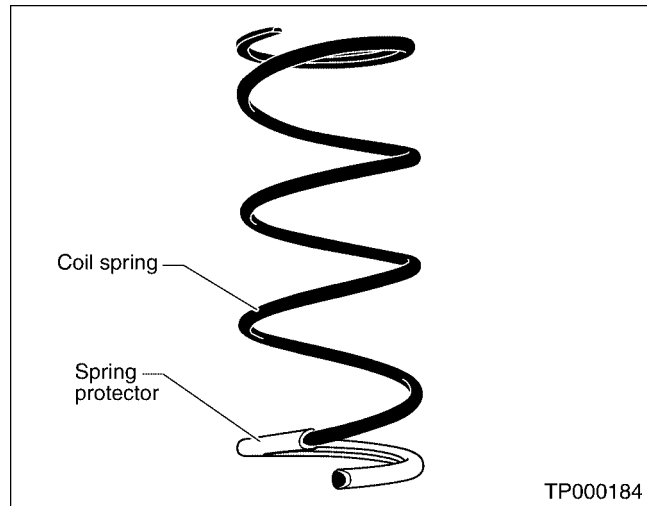

Figure 2
4. Remove the gray spring protector (see Figure 2) from the spring.